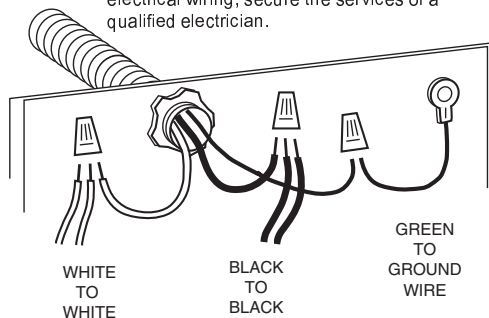

Fig. 3
8. Remove paper backing from door pulls and press them on to mirror side of doors at locations shown. (Fig. 3)